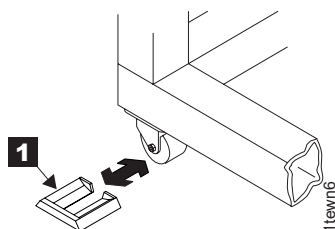

Figure 15. Wedge chocks
14. Install the wheel chocks **1** (located in the ship group) on all four casters. If caster locks are available, engage the caster locks on all casters. Refer to Figure 15.